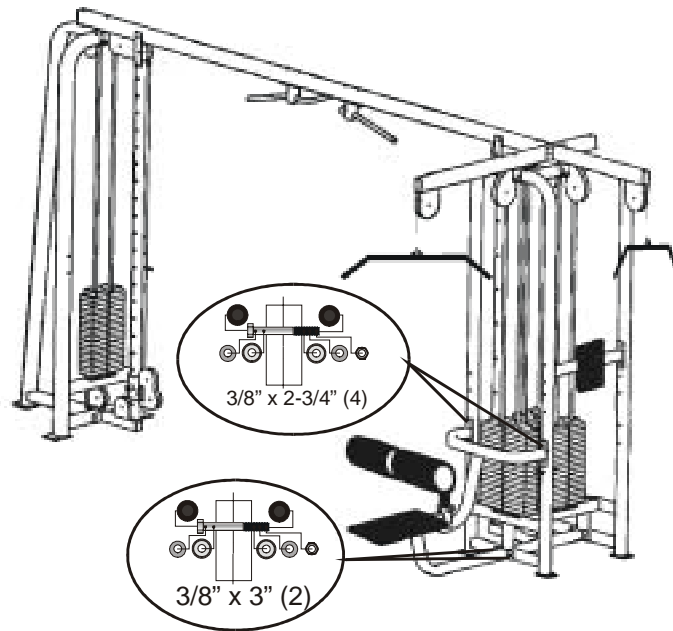

Figure 13. Mount the benches to the frame.
7. **Mount the lat bench to the frame.** Using the bolts specified in Figure 13 and a 9/16" socket and combination wrenches, mount the lat bench as shown in Figures 13 and 14.